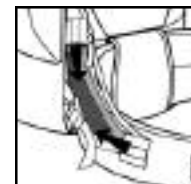

Figure 22
2. Remove the Levitator from the two webbing pockets adjacent to the webbing strap. (Note: there is velcro inside the pockets and on the Levitators.) **See Figure 22.**